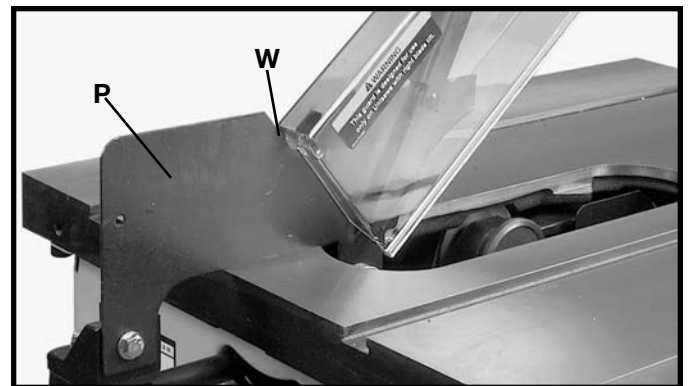

Fig. 25
10. **IMPORTANT:** The splitter (P) Fig. 25, features a notch (W) cut into the top edge. Raise the front of the clear blade guard (P) Fig. 25, until the rear edge of the guard slips into notch (W) of the splitter. This notch enables the blade guard to stay in the raised position and makes changing blades easier.